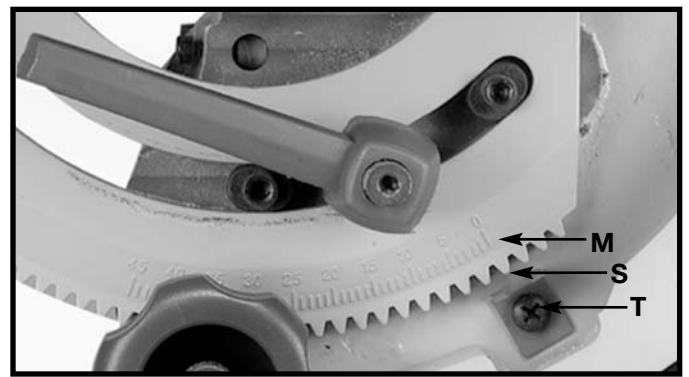

Fig.16
9. Loosen the screw (T) Fig. 16 and align pointer (S) with "0" mark on the trunnion scale (M). Tighten securely.